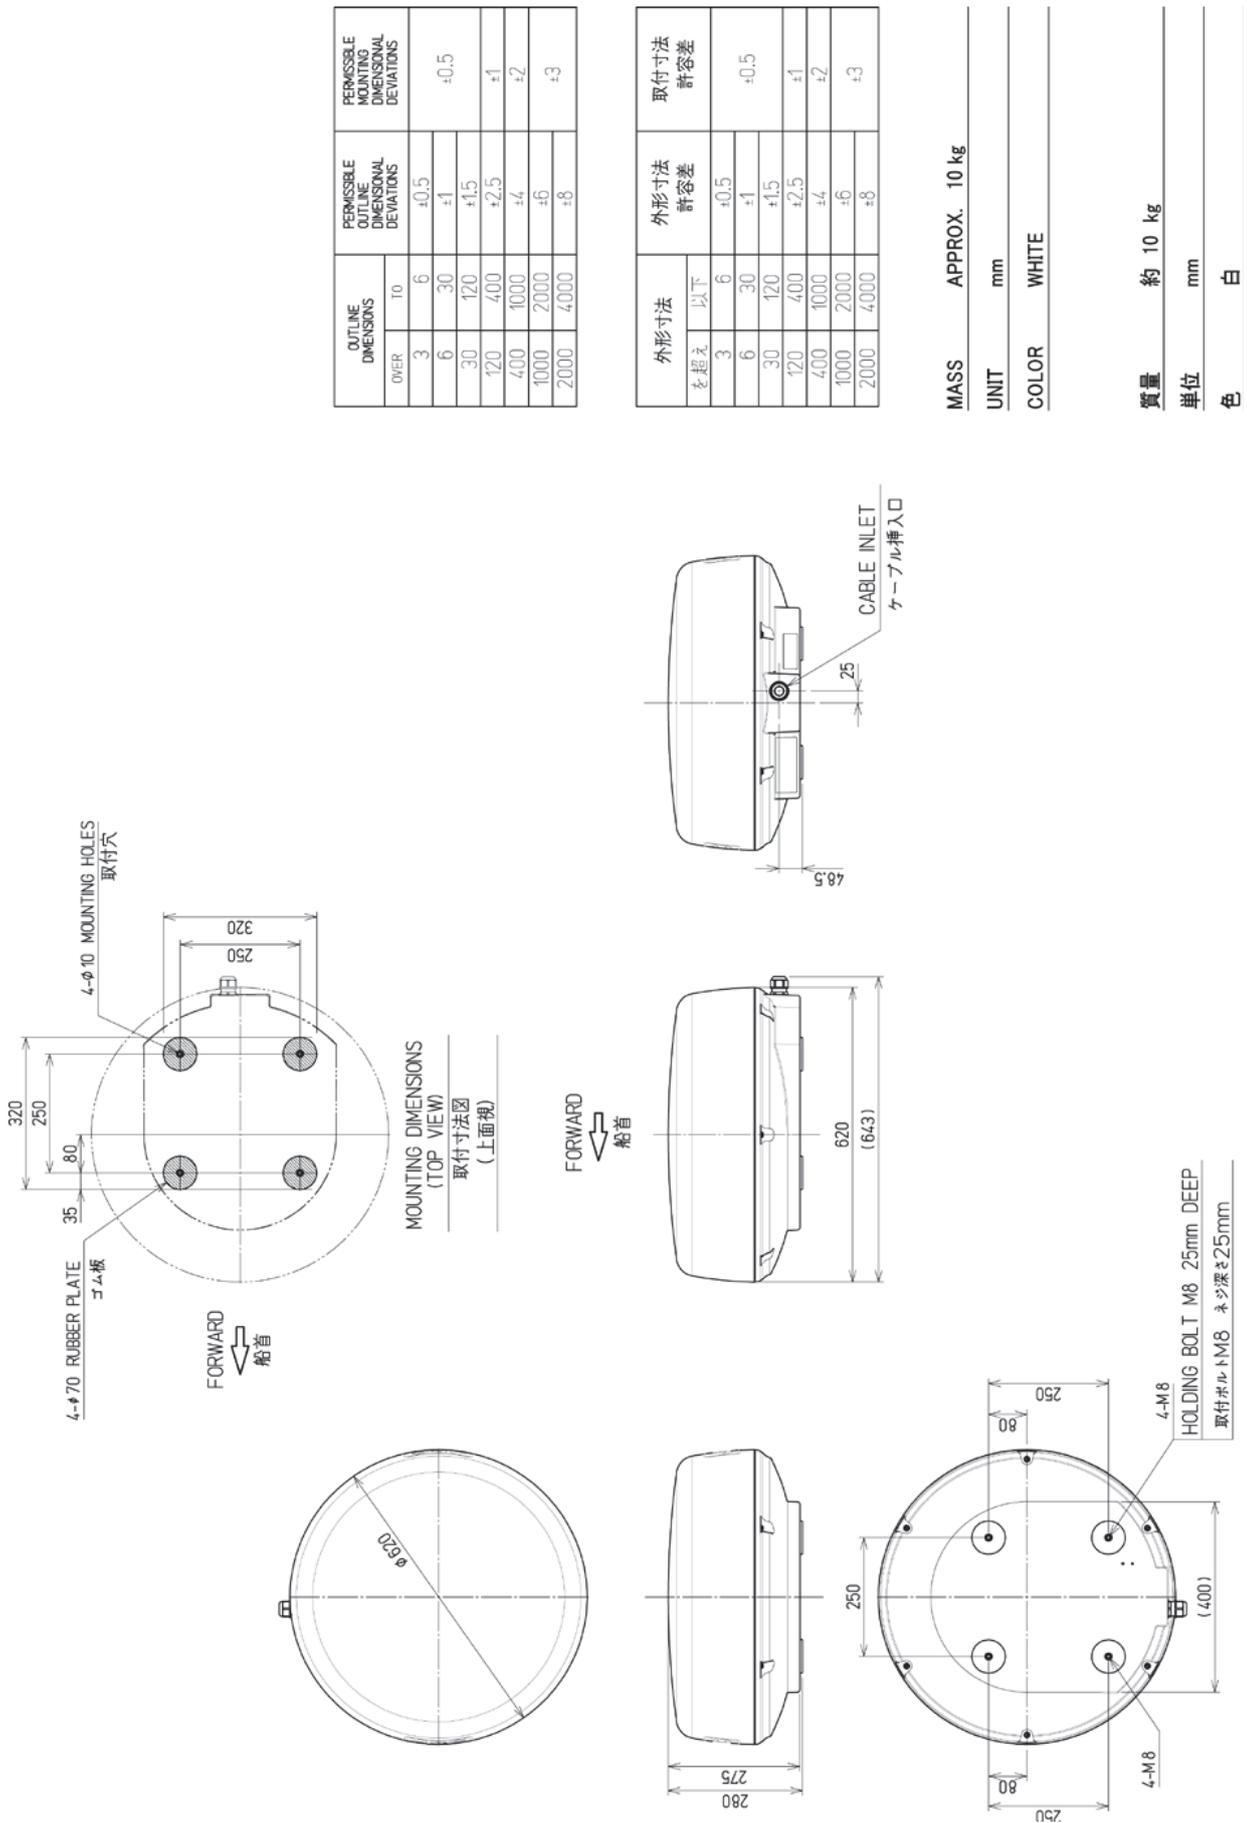

Fig. 1.1 Exterior Drawing of Scanner Unit, Type NKE-2043
- Fig. 1.1 Exterior Drawing of Scanner Unit, Type NKE-2043